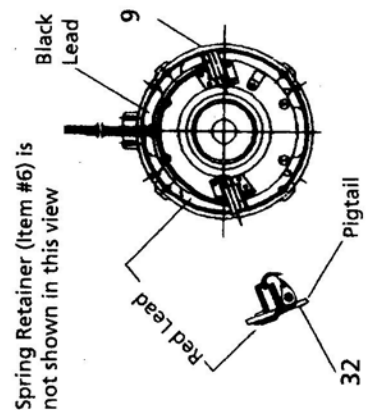

Figure 3 - Lead Wiring Diagram
5. Install new brush and tighten the #6-32 screw on brush lead. Also connect red and black lead wires to this same screw making sure these leads are routed as shown in Figure 3.